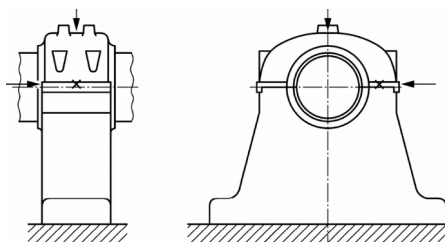

Figure 5: Measuring points on pillow blocks
**DIN/ISO 20816-1** The standard DIN/ISO 20816-1 recommends bearing housings or their immediate surrounding as preferable measuring points for machine vibration (figure 5 to 8).